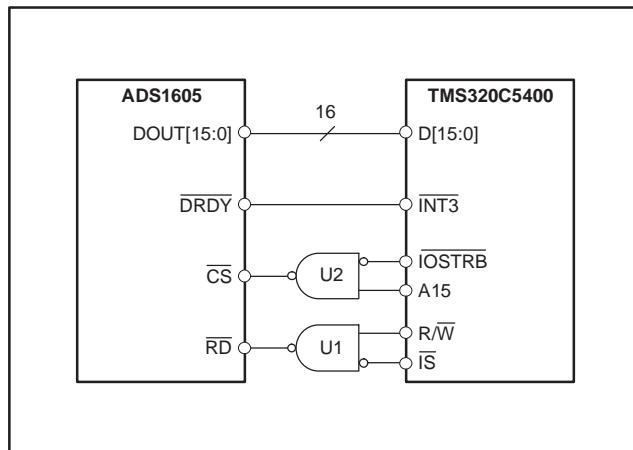

Figure 30. ADS1605—TMS320C5400 Interface Connection
Figure 30 illustrates how to connect the ADS1605 to the TMS320C5400 DSP. The processor controls the reading using the outputs R/W and IS. The I/O space select signal (IS) is optional and is used to prevent the ADS1605 RD input from being strobed when the DSP is accessing other external memory spaces (address or data). This can help reduce the possibility of digital noise coupling into the ADS1605. When not using this signal, replace NAND gate U1 with an inverter between R/W and RD. Two signals, IOSTRB and A15, combine using NAND gate U2 to select the ADS1605. If there are no additional devices connected to the TMS320C5400 I/O space, U2 can be eliminated. Simply connect IOSTRB directly to CS. The ADS1605 16-bit data output bus is directly connected to the TMS320C5400 data bus. The data ready output from the ADS1605, DRDY, drives interrupt INT3 on the TMS320C5400.